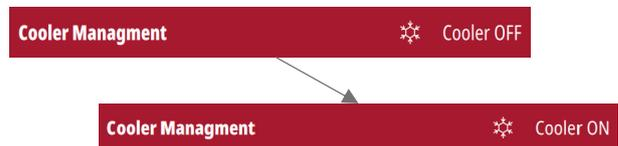

Figure 10
- Activate the cooler from the power source menu (Figure 10)